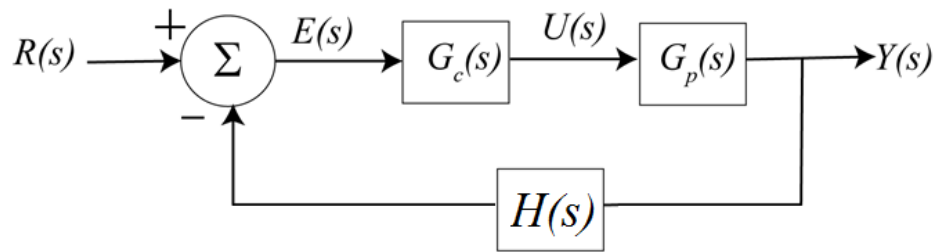

Figure 2: Feedback control system
2. For the feedback control system represented by the diagram in Figure 2, determine the transfer function, $G_o(s) = Y(s)/R(s)$. What do you think $H(s)$ represents?